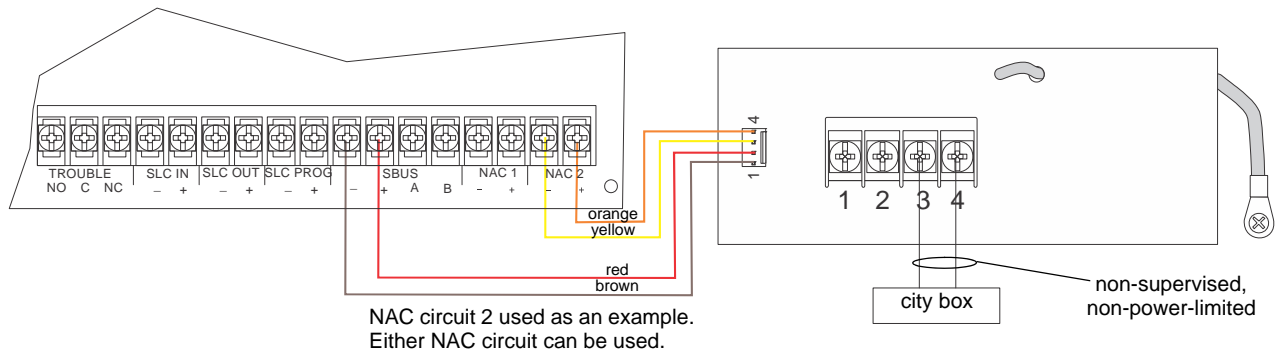

Figure 4.27 City Box Connection
2. Wire the 5220 to the control panel as shown in Figure 4.27. This drawing also shows how to connect the city box coil to terminals 3 and 4 on the 5220. Do not install an EOL resistor in the terminals of the NAC circuit used for this application.